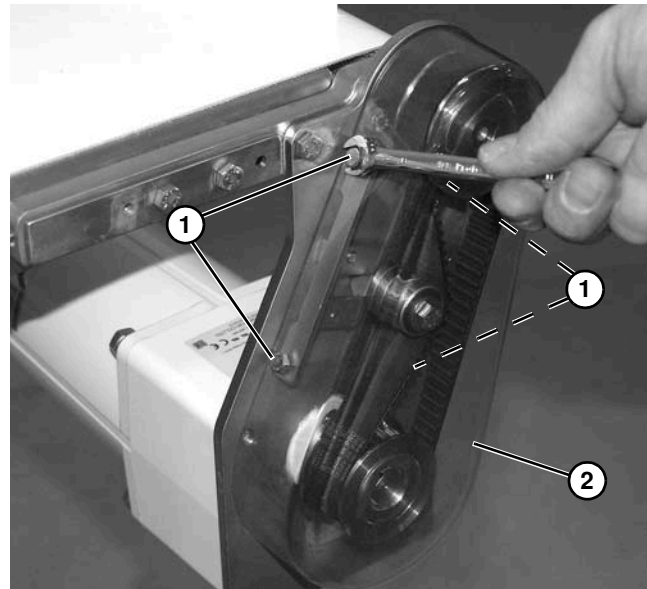

Figure 38
1. Loosen four screws (**Figure 38, item 1**) securing cover (**Figure 38, item 2**).
2. Remove cover (**Figure 38, item 1**).